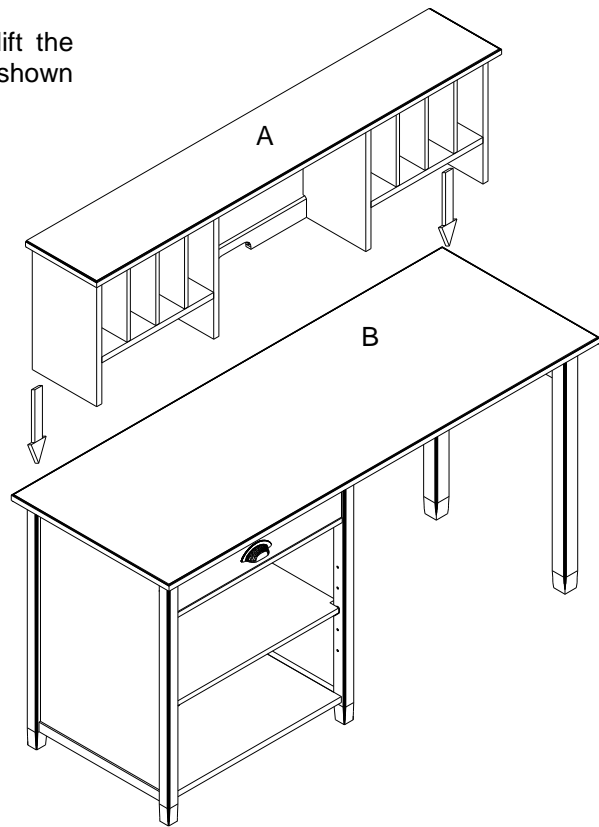

Fig. 1
1. With the help of two people, carefully lift the hutch (A) on top of the large desk (B) as shown in Fig. 1